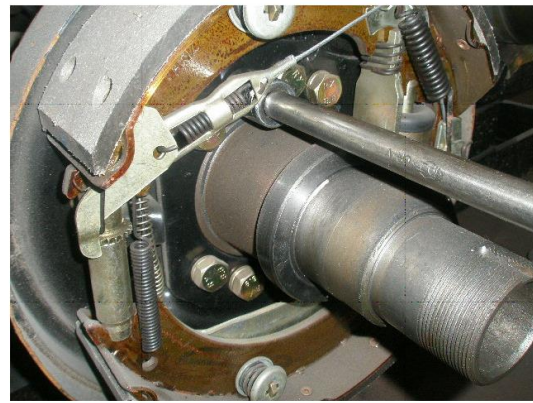

Fig 6-12
(6) Remove the E-shaped retainer ring that fastens the brake cable onto the bottom plate, then remove the mounting bolts on bottom plate, and detach the bottom plate from the axle. (Fig 6-12)